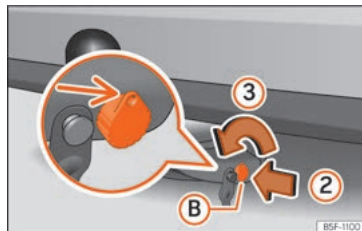

Fig. 300 Releasing the lock.
- Insert key (B) into the lock in the direction of arrow (2) » Fig. 300.
- Turn the key in the direction of arrow (3) until the part of the key with the holes is facing upwards.